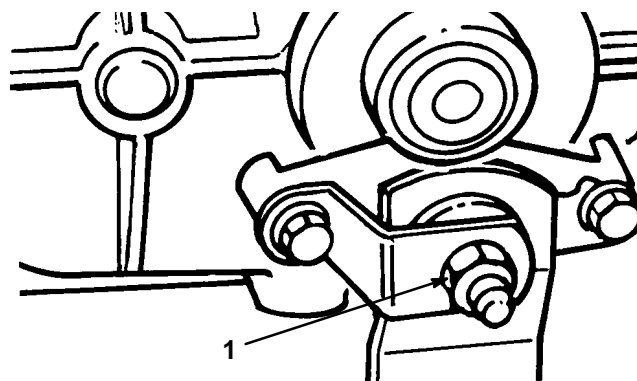

Figure 13
Adjust brake pucks if the parking brake does not hold or braking power is not sufficient when brake pedal is depressed. The brake is located on the left side of the transaxle (Fig. 13).
3. Tighten locknut approximately 1/4 turn clockwise (Fig. 13).